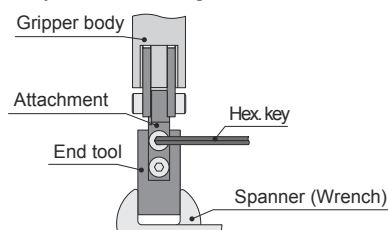

Fig. 9
- When installing an end tool as shown in Fig. 9, hold the end tool with a spanner (or wrench) to avoid a load applied to the gripper body. Holding the main body to install an end tool may result in damage or malfunction.